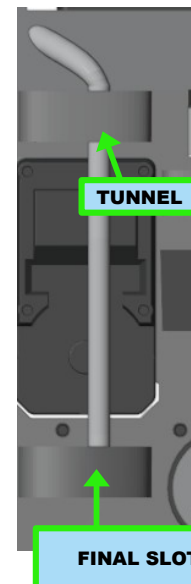

Figure 5.38 : Inserting the tube into the pass-through tunnel and then into the final slot (rear view) (vista posteriore)
2. Insert the other end into the pass-through tunnel and then into the final slot (figure 5.38).